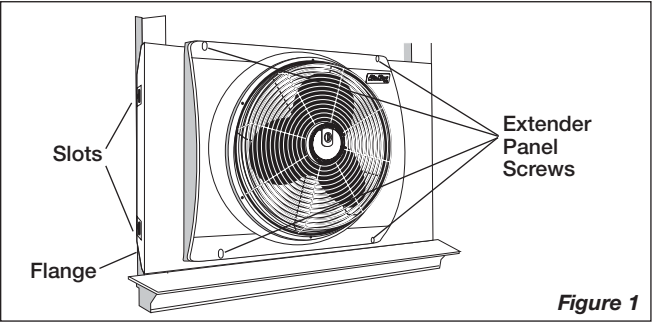

Figure 1
- Loosen 4 Extender Panel Screws and extend Side Panels to clear the outer edge of trim on each side of window. (*Figure 1*)
- Loosen 4 Extender Panel Screws (*Figure 1*) and extend Panels on each side of Housing until the Fan fits snugly between right and left window trim.